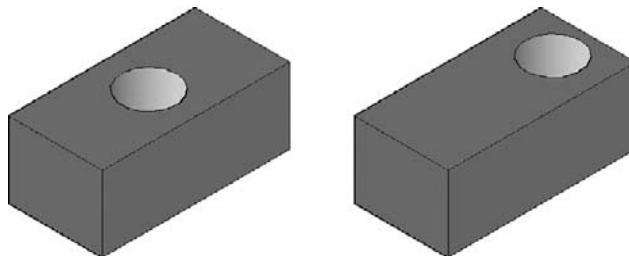

FIGURE 26.17
Step 2. AutoCAD shows the same lengthy solid editing menu (not reproduced here again) and asks you to select the faces (the hole). From there, the command is exactly like a regular move command. It asks for a base point to move *from* and a second point to move *to*. Be sure to have Ortho on when doing this. Upon completion, the hole is moved, as seen in Figure 26.17.